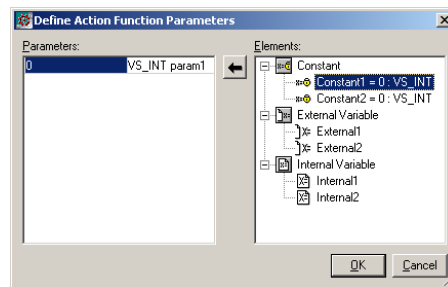

Figure 76: Define Action Function Parameters dialog box
- 4 Double-click the action function just added. A Define Action Function Parameter(s) dialog box is displayed. See Figure 76, page 92.